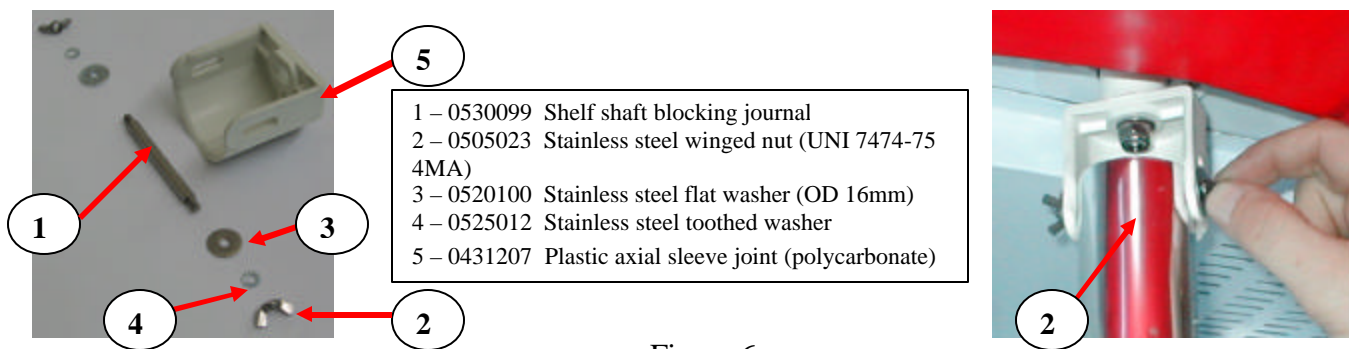

Figure 6
7. Remove the hardware (wing nut, flat washer, & toothed washer) from one side of the Shelf Shaft Blocking Journal. See Figure 6.
15. Install the hardware (wing nut, flat washer, & toothed washer) removed in step 7. Apply Loctite to the threaded ends of the Shelf Shaft. See Figure 6.